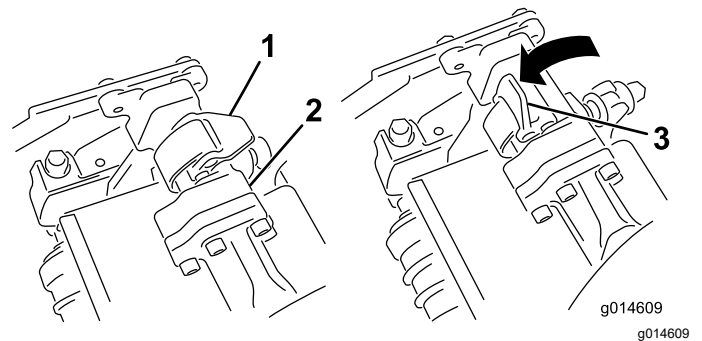
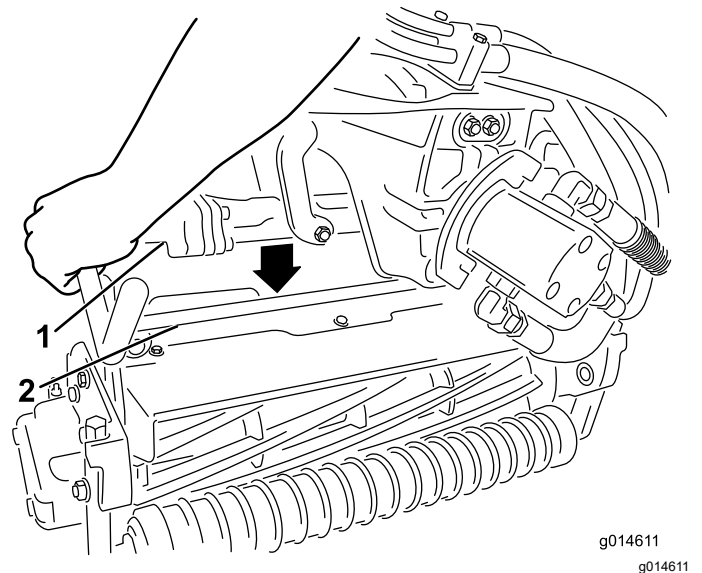

Figure 52
Figure 53
4. Open the latches on the suspension-arm bar (Figure 52) and push the suspension arm down so that the bar fits over both pitch arms on the cutting unit and ensure that the latches go underneath the cutting-unit crossbar (Figure 53).
5. Close the latches down and around the cutting-unit bar and lock them in place (Figure 52).
6. Open the latches on the suspension-arm bar of the cutting unit you are removing (Figure 52).